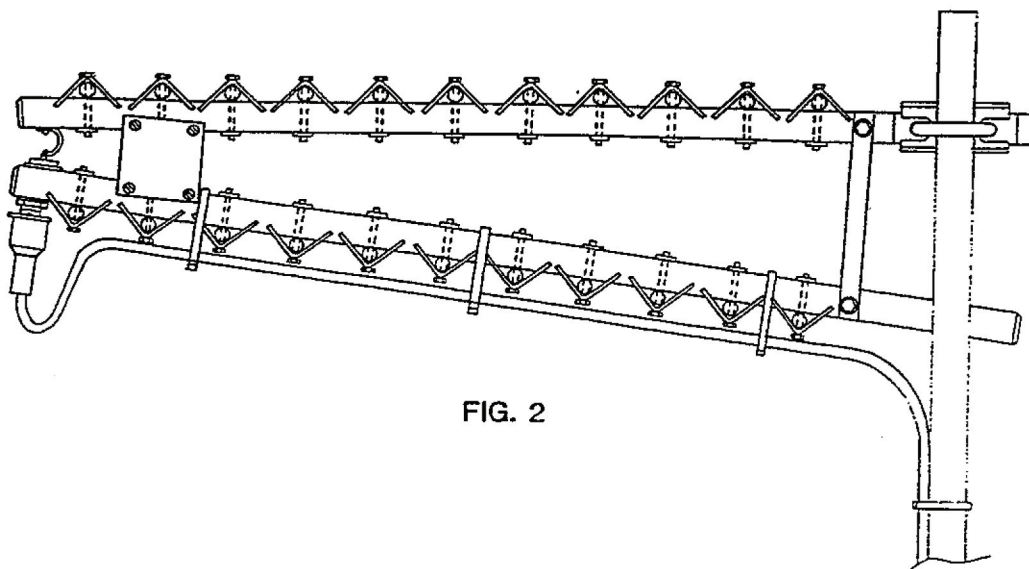

FIG. 2
3. Securely lash the downlead to the mast. For best results the coax should be fastened to the antenna boom as shown in Fig. 2, with the nylon ties supplied.